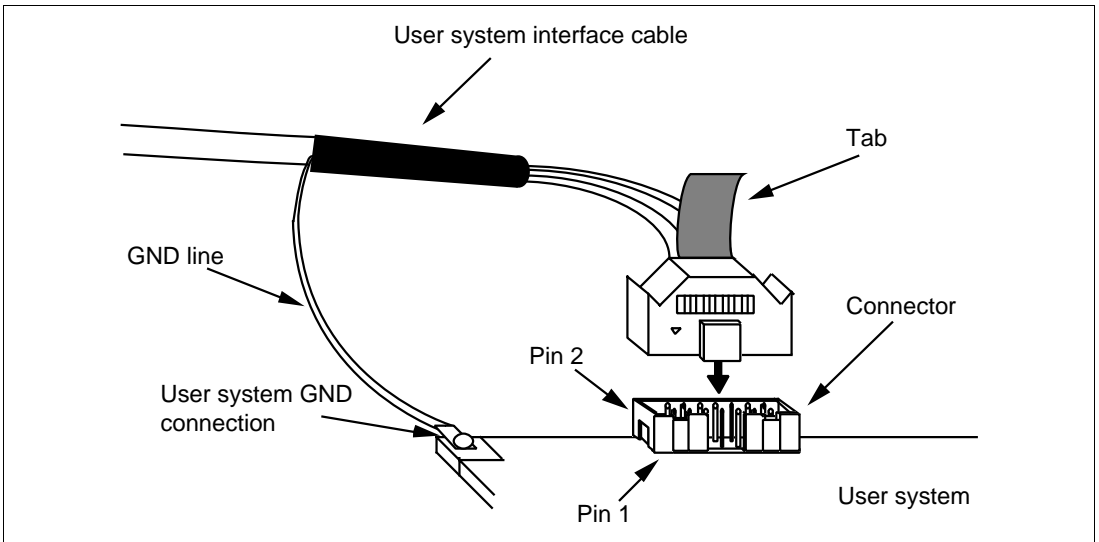

Figure 2.4 Connecting the User System Interface Cable to the User System
- (2) The pin arrangement of the connector is shown in section 6.2, Pin Arrangement of the Connector.
- (3) Figure 2.4 shows how to connect the user system interface cable to the user system. Connect the ground line of the cable to the user system ground. The end of the ground line has a hole having a diameter of 3 mm, and therefore, when the ground line is screwed to the user system, the screw diameter must be 3 mm.